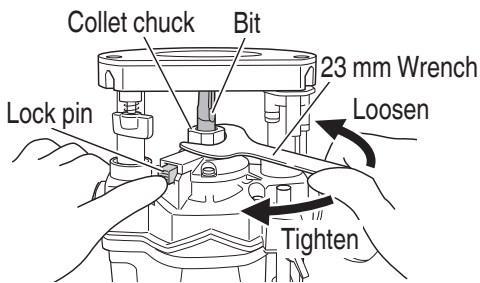

Fig. 12
- (2) Clean and insert shank of bit into the collet chuck until shank bottoms, then back it out approximately 2 mm.
- (3) With the bit inserted and pressing the lock pin holding the shaft, use the 23 mm wrench to firmly tighten the collet chuck in a clockwise direction (viewed from under the router). (**Fig. 12**)